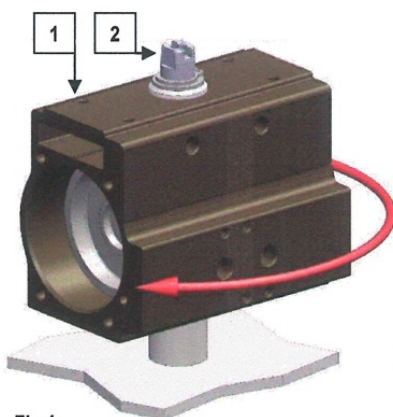

Fig.4
8. Rotate the cylinder ( 1 ) in CLOCKWISE direction (top view) holding the pinion ( 2 ) so as to release the rack of the pistons ( 12 ) from the pinion ( 2 ) and to push the pistons towards to the cylinder ends. Now both pistons ( 12 ) can be removed see Fig. 4. NOTE: Do not use compressed air to remove the pistons ( 12 ) from the cylinder ( 1 )